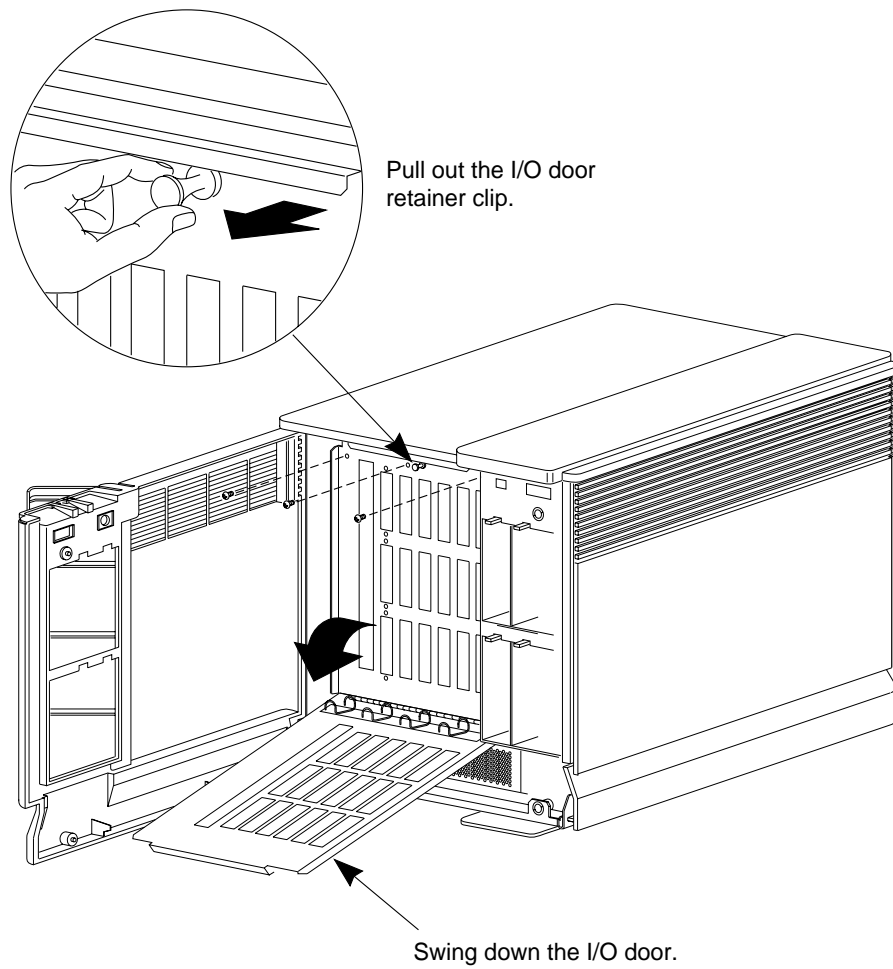

Figure 3-5 Opening the I/O Door
3. Open the I/O door as shown in Figure 3-5.